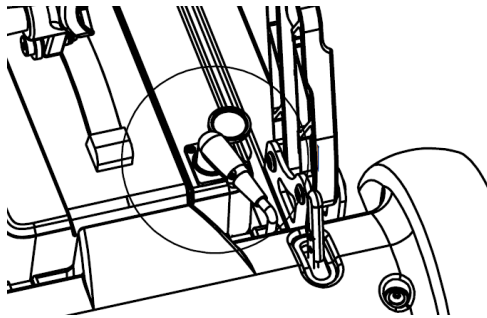

Figure 5-1 Charging port
4. Unplug the power cord connecting the battery box as shown in Figure 5-1 to expose the charging port;